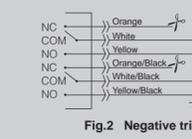

Fig.2 Negative trigger
- For the vehicle with original electric central door lock, check its triggering type (negative or positive), then connect wires as per wiring diagrams Fig.2 or Fig.3.
- For the vehicle without central locking system, please install one set central locking system to match with the car alarm system. Fig. 2.